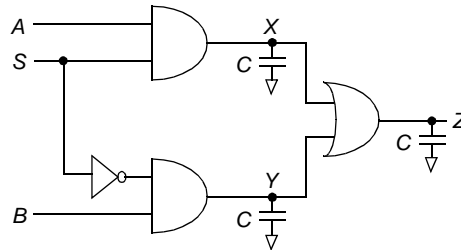

Figure 6.18 Two-input multiplexer
- 27. [C, None, 4.4] Figure 6.18 shows a two-input multiplexer. For this problem, assume independent, identically-distributed uniform white noise inputs.
- b. Find the exact signal (P_1) and transition ($P_{0 \rightarrow 1}$) formulas for nodes X, Y, and Z for: (1) a static, fully complementary CMOS implementation, and (2) a dynamic CMOS implementation.
28. [M, None, 4.4] Compute the switching power consumed by the multiplexer of Figure 6.18, assuming that all significant capacitances have been lumped into the three capacitors shown in the figure, where $C = 0.3$ pF. Assume that $V_{DD} = 2.5$ V and independent, identically-distributed uniform white noise inputs, with events occurring at a frequency of 100 MHz. Perform this calculation for the following: